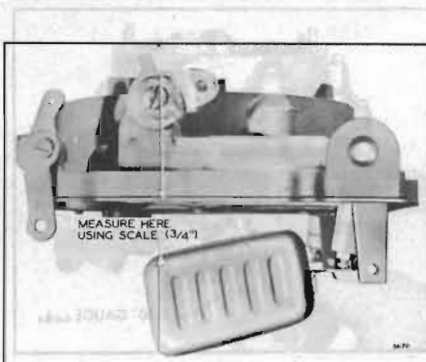

Figure 64-60—Checking Float Drop
11. Adjust Float Drop. With air horn held in upright position, measure vertical distance from air horn gasket to outer end of each float using T-scale. Bend float arm tang as required to obtain 3/4" measurement. See Figure 64-60.